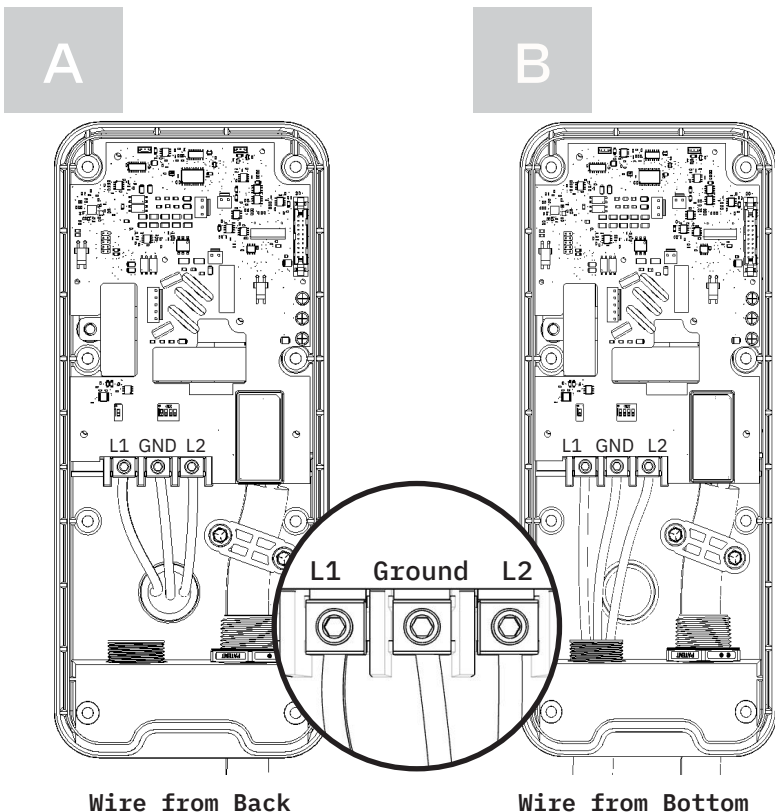

Figure 3-10 Connecting Wires
Step 2: Depending on how the electrical service enters the XLink, the wiring will be routed through either the bottom entry hole or the back entry hole (see **Figure 3-10**). If using the back entry hole, route the electrical service wires through the semi-circular opening at the bottom of the mounting bracket before attaching the bracket.
Step 2: Unscrew the wire binding screw provided with the charger input lug connectors until the wire hole is completely unobstructed by the screw, refer to **Figure 3-10**.
Step 5: Inspect the secured wires, L1, GND, and L2, and ensure they are in the correct locations. The connected wiring will look like **Figure 3-10** example A for rear service entry or **Figure 3-10** example B for bottom service entry.